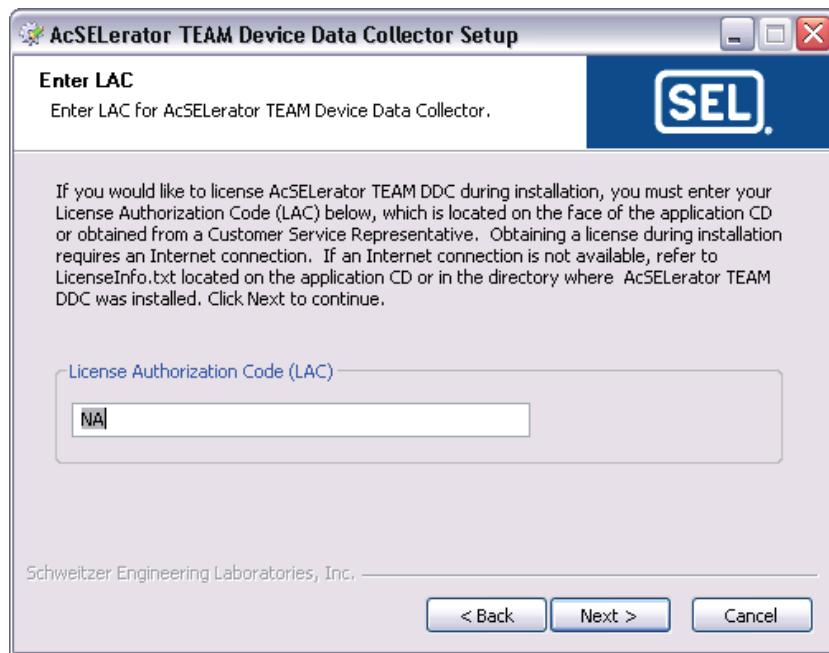

Figure 1 Enter LAC Dialog
- Once you have reached the User Information window (see *Figure 1*), enter your License Authorization Code (LAC) number printed on the case label. The installation will contact the license web service automatically. The web service will generate a license file for the application and distribute it to your machine.